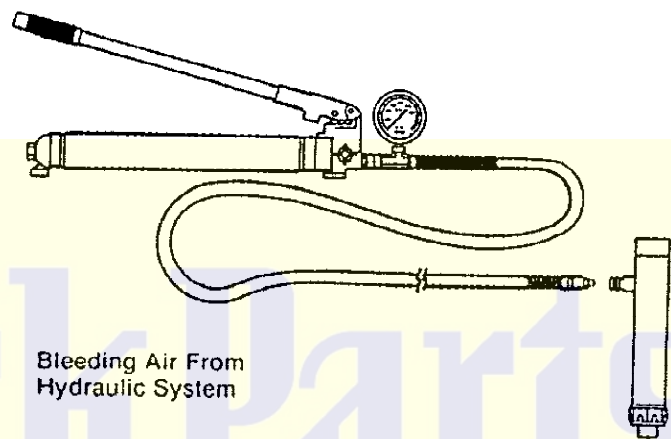

FIGURE 4
2. To bleed hydraulic system - place pump in a horizontal position and place ram so that the ram plunger is pointed downward (Figure 4). The ram and hose must be lower than the pump discharge port. Open release valve fully, and pump handle full stroke 10-12 times. Close release valve. Pump to extend ram plunger fully, then release. Repeat two or three times if required.